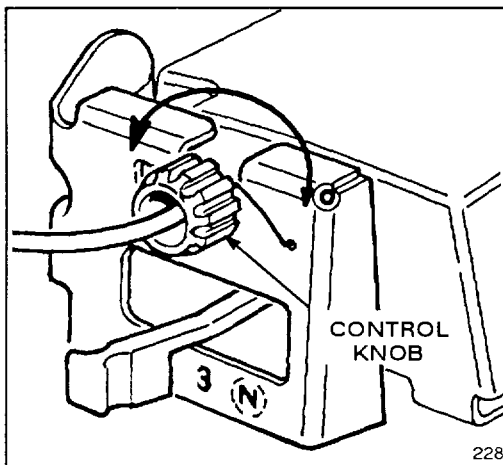

Figure 13
1. ADJUSTMENT (Fig. 13)—Rotate control knob clockwise 1/2 turn if mower does not self-propel. If mower creeps forward, rotate knob 1/2 turn counter-clockwise to loosen belt.